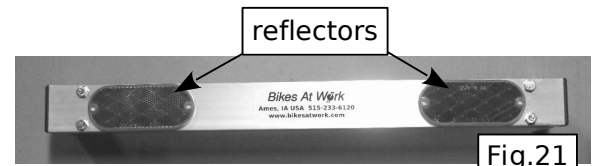

Fig.21
14. Mount the self-adhesive reflectors on the rear trailer crossmember as shown in Fig.21.